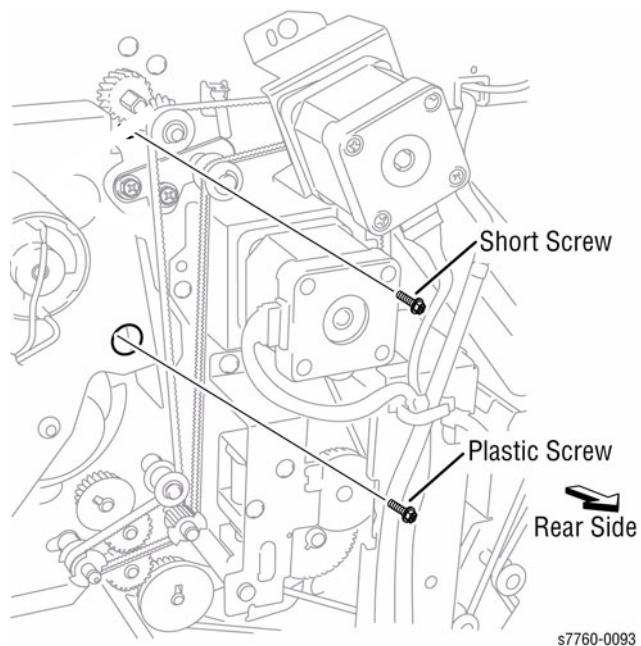

Figure 1 Removing screws on Rear of the Finisher
6. Remove the 2 screws on the rear of the Finisher (Figure 1).